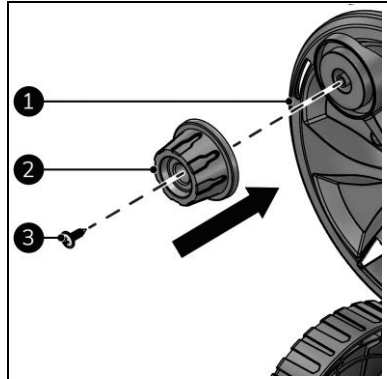

Figure 10
1. Attach the handle (Figure 10, pos. 2) to the high-pressure hose reel (Figure 10, pos. 1) with the ST4.8x16 screw (Figure 10, pos. 3).